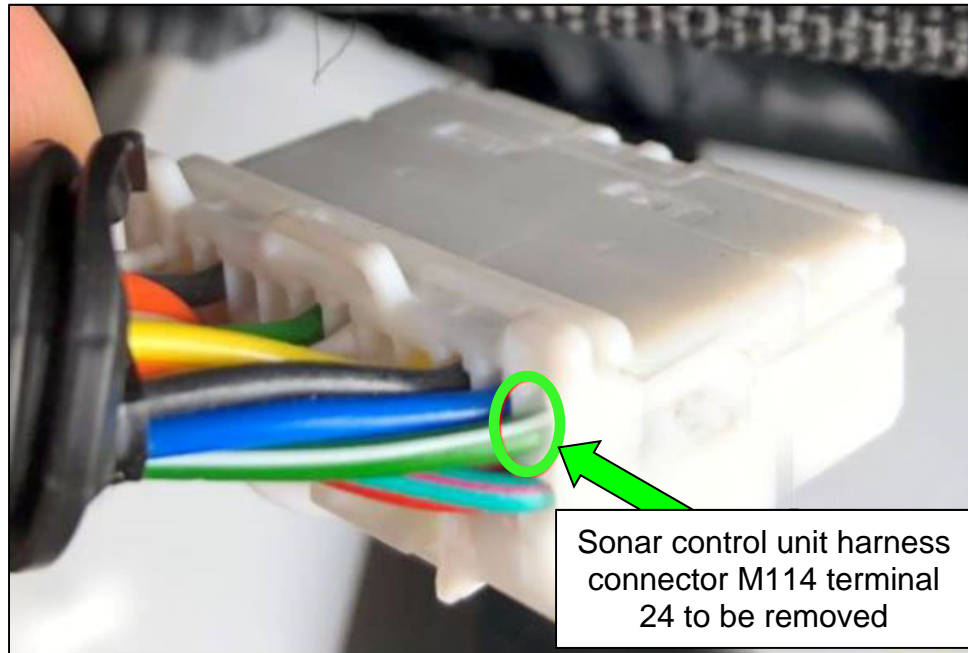

Figure 6
6. Identify the sonar control unit reverse position input wire (Figure 6).